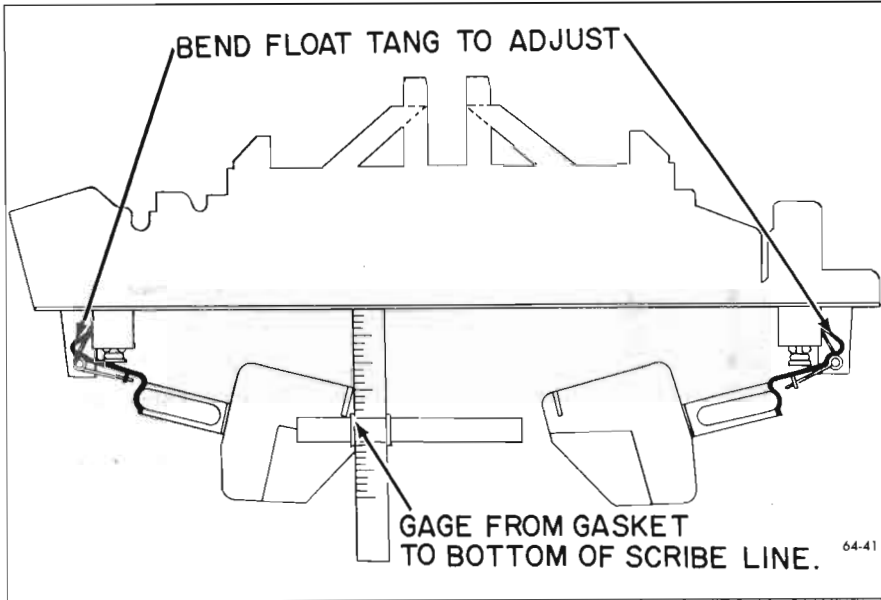

Figure 64-41—Float Drop Adjustment
21. With the air horn held upright, measure the distance from the air horn gasket to the bottom of scribe line on the side of float pontoon, as shown in Figure 64-41.